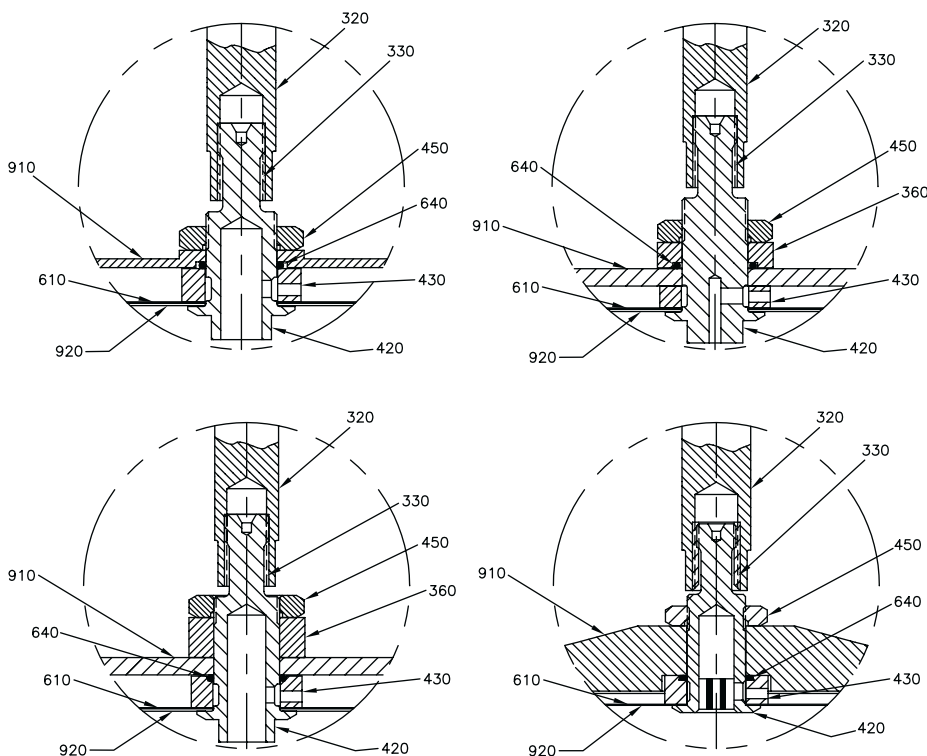
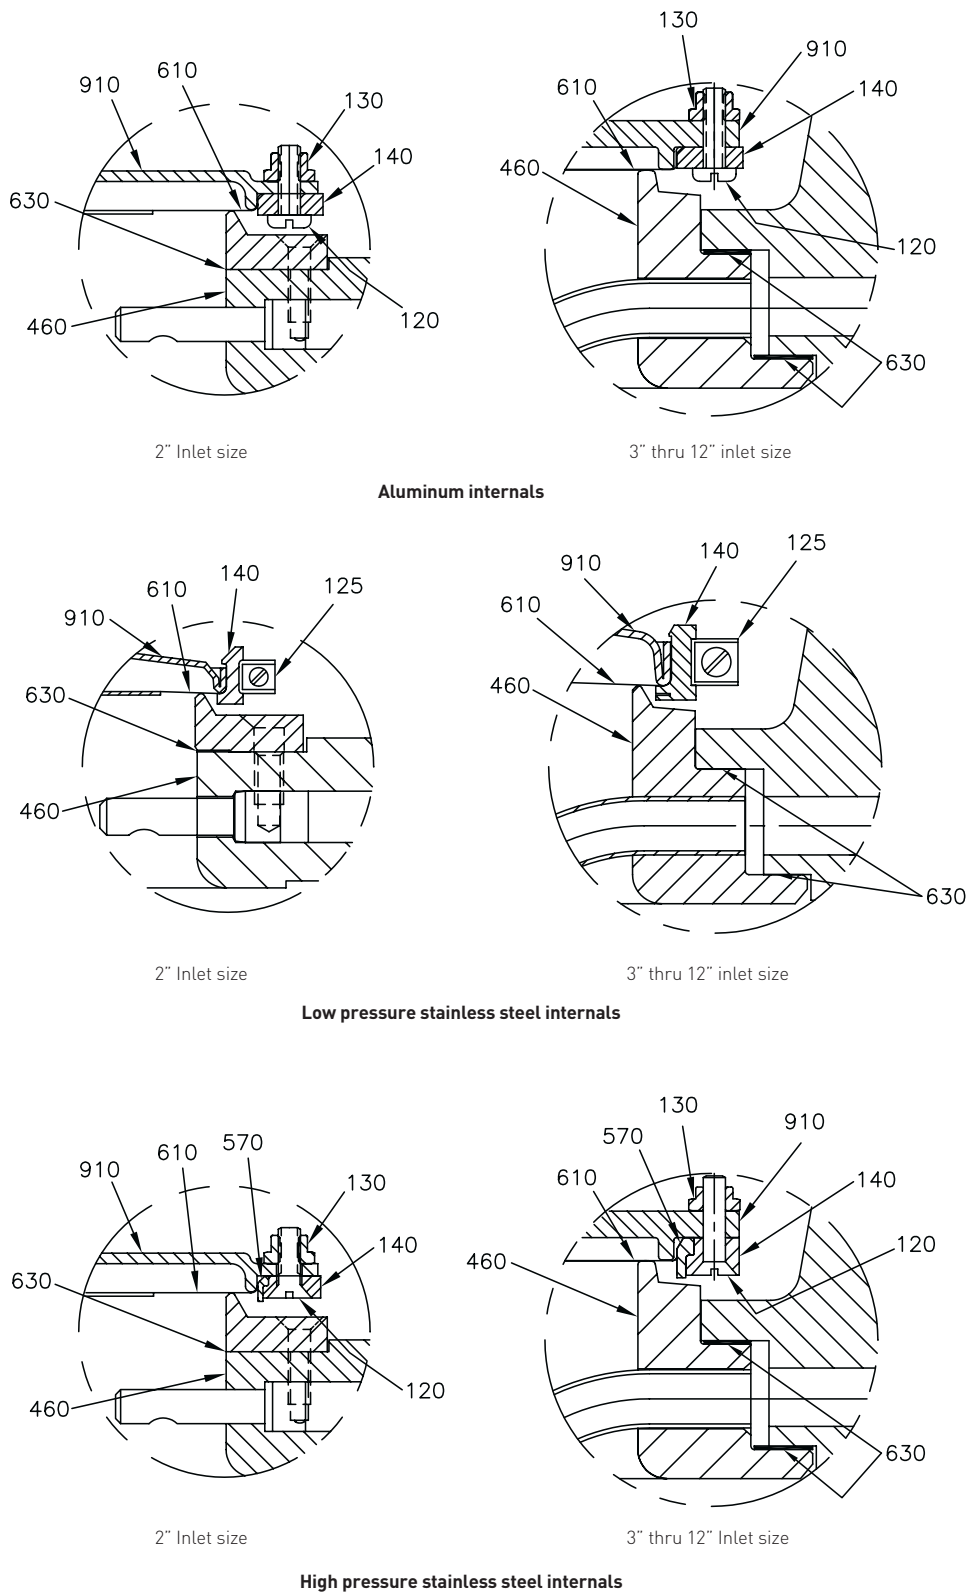

FIGURE 4, DETAIL D
FIGURE 5, DETAIL E
2.4 Main valve seat disassembly and replacement (bolted) [refer to Figure 4, detail D, and Figure 5, detail E]
2.5 Main valve seat disassembly and replacement (banded) (Refer to Figure 4, detail D and Figure 5, detail E)
Tightening the jam nut (450) prior to stretching the film (610) will cause ripples in the film. (See Figure 5, Detail E)
7. Remove the seat hub (420) from the vise and install it into the fixture. Then install the seat retainer (140) (beveled side down) onto the seat film (610), and then install the clamp band (125) and tighten.
8. Using a heat gun, apply heat to the seat film (610) in a circular motion approximately 2" to 3" above surface until all ripples and creases are gone. This usually takes less than 1 minute. Now tighten jam nut (450) wrench tight.
9. Trim excess film (610) from back side of seat plate (910) to complete reassembly process.